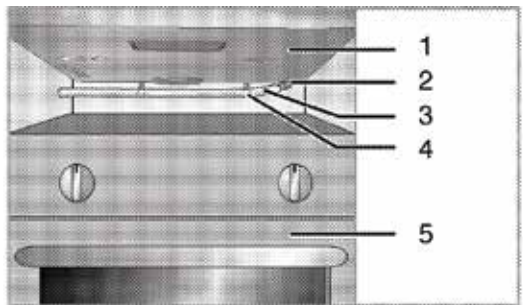

Figure 6
- To positioned the outer coating of gas pipe or hose and robustness control. (See Figure 6)